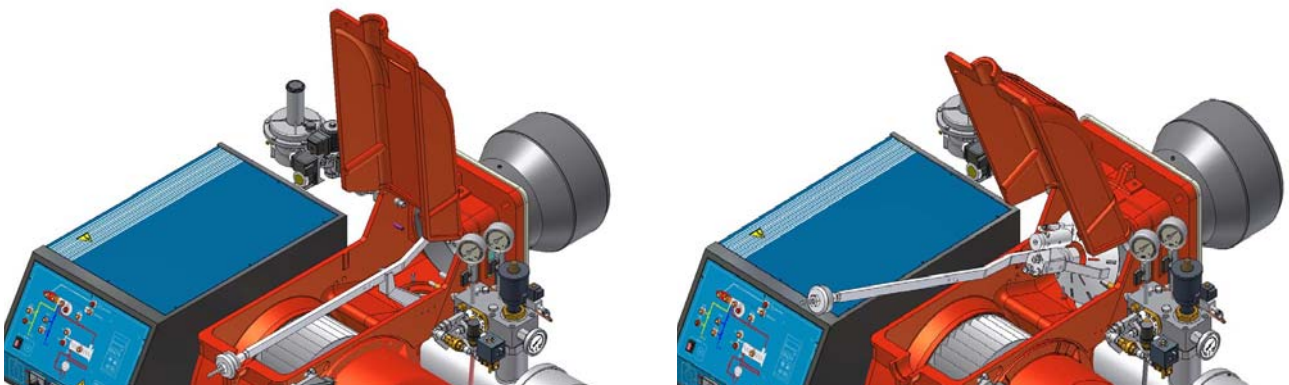

Fig. 36
- Unscrew the flexible hoses from the gun (burner side) and remove the whole assembly as shown on Fig. 36.